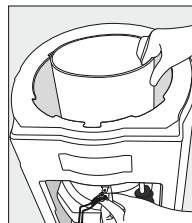

Figure 38
7. Using both hands, loosen the reservoir from the evaporator band and lift it straight through the cooler opening (Figure 38).